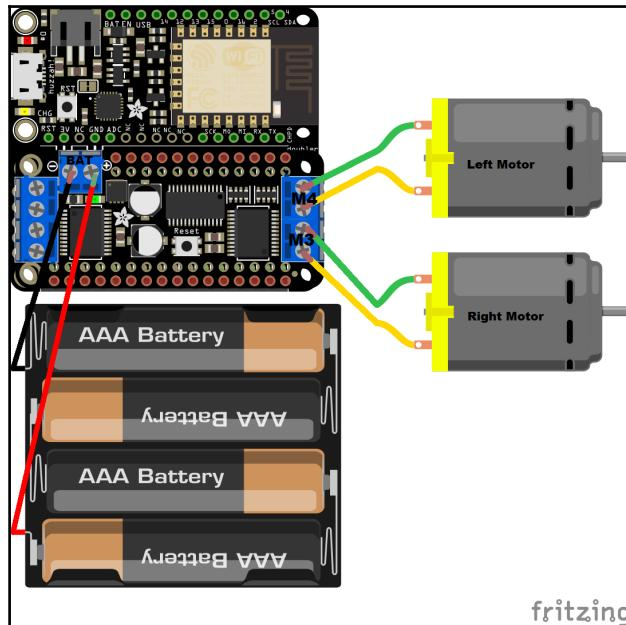

Figure 6.23: Powering the DC Motor FeatherWing with the four battery section of the battery compartment
7. Connect the + and - lines from the battery compartment to the DC Motor FeatherWing power terminals (*Figure 6.23*). Don't insert the batteries in the battery compartment yet: